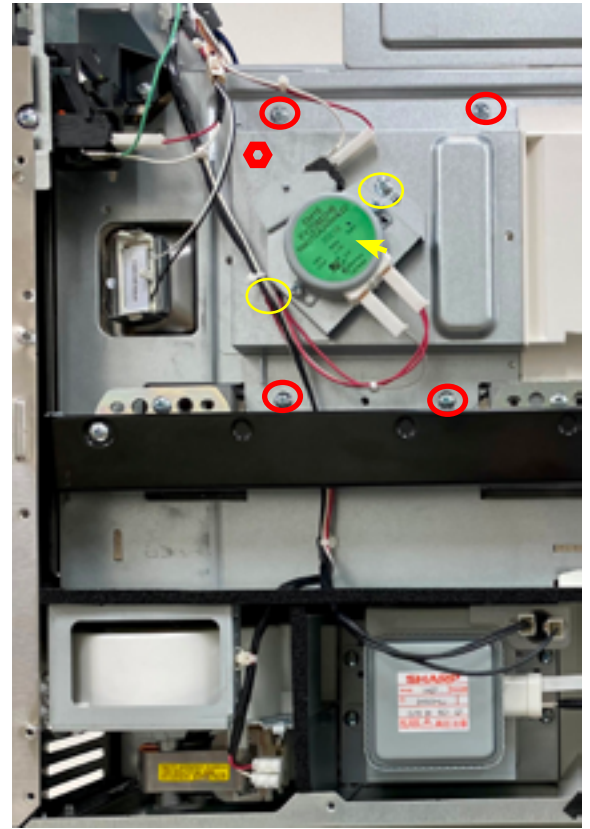
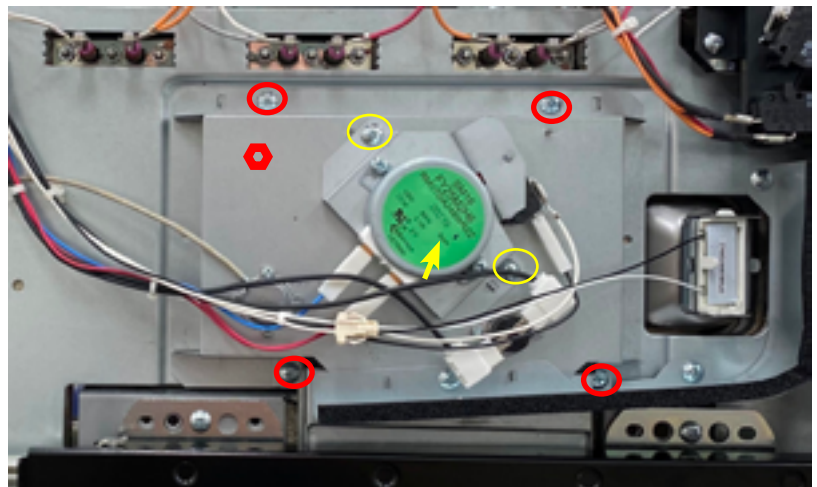

Fig. D-1
Fig. D-2
2. Remove (2) screws holding Damper Motor Assy (⚡) to Intake Duct Assy (Fig. D-1 & Fig. D-2).
2. Remove the (4) screws holding the Intake Damper (⬠) from cavity. (Fig. D-1 & Fig. D-2).